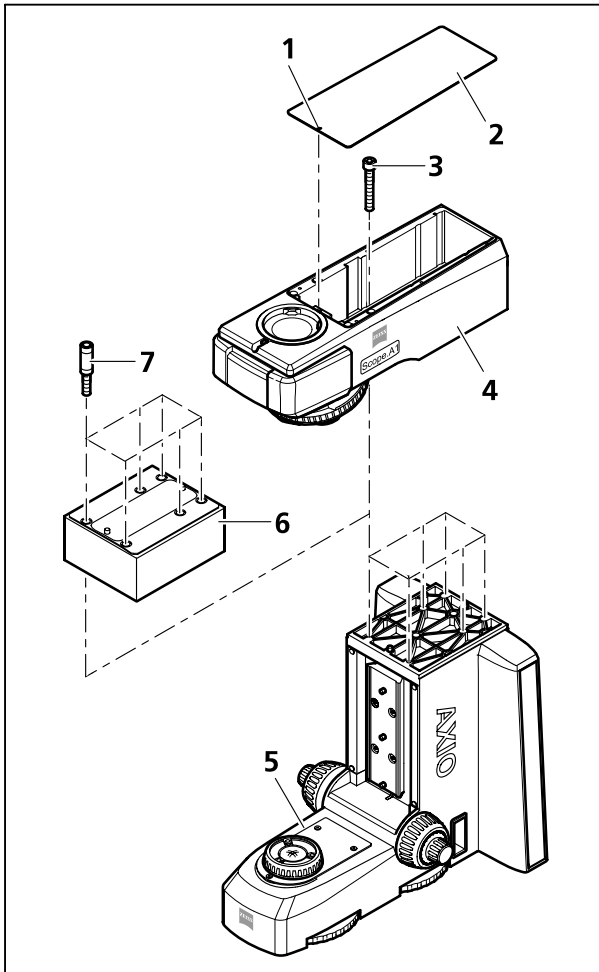

Fig. 3-39 Changing the upper stand part, inserting a centerpiece
- Remove the magnetically held cover (Fig. 3-39/2) of the upper stand part by inserting a screwdriver into the special front opening (Fig. 3-39/1). Then lift the cover.
- Hold the upper stand part (Fig. 3-39/4), unscrew the six hexagon socket screws (Fig. 3-39/3) with the ball head screwdriver SW 5 and remove the upper stand part.
- If you want to mount a centerpiece (Fig. 3-39/6), then proceed by screwing the appropriate spacers (Fig. 3-39/7) with the included key SW 8 into the lower stand part. Then mount the centerpiece 30 mm or 60 mm.
- Mount the upper stand part to be mounted (Fig. 3-39/4) onto the lower stand part or the centerpiece, hold it and tighten the six hexagon socket screws (Fig. 3-39/3).